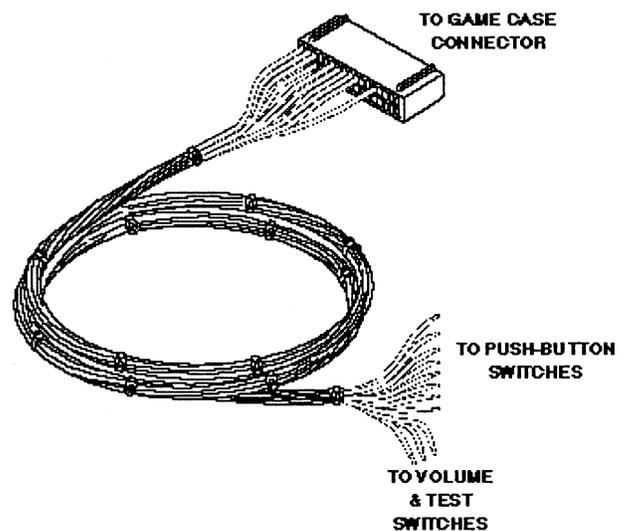

FIGURE 6
20. Connect the Player 1 and Player 2 buttons to the auxiliary cable harness connectors shown in Figure 6. Make the connections according to the chart of Figure 7.